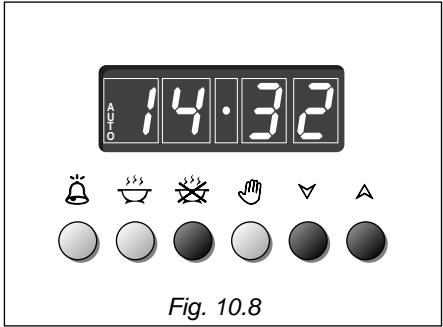

Fig. 10.8
- 2. Set the time you need the food to stop cooking by pushing the  button and the  button to advance, or  to go backwards if you have passed the desired time (Fig. 10.8).